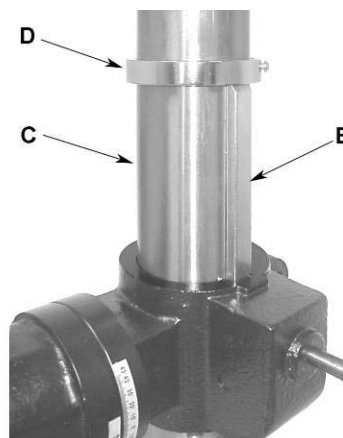

Figure 3
3. Slide the *rack ring* (D) over the *column* (C), placing it so it rests against the *rack* (B) as shown in Figure 3 and tighten firmly.